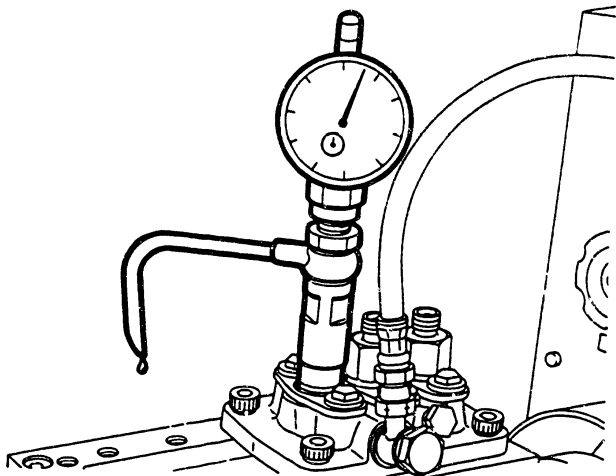

Fig. 65 Adjusting the pre-stroke
6. Turn the flywheel slowly by hand in a clockwise direction (viewed from the drive side), and read the value indicated on the measuring device when the fuel oil stops flowing. (Figure 65)